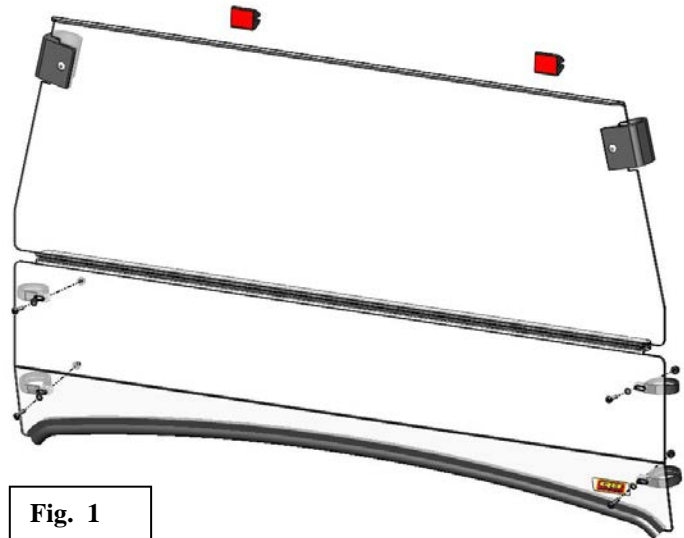

Fig. 1
2. **Install clamps.** Refer to Fig 1. Place two clamps on the forward most portion of the cab frame tubing. Make sure the flat portion of the clamp is towards the front of the vehicle. (Repeat for opposite side)
4. **Attach Shield.** Use the ¼-20 screws, washers and ¼-20 nylock nuts to secure the windshield to the Cab frame. Refer to Fig 1. **NOTE:** Torque to 25 in-lbs. Do not over-tighten.